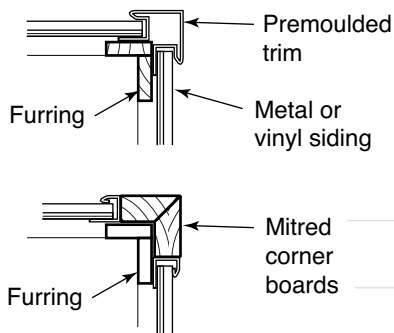

FIGURE 40
- Use only premoulded corner-piece accessories on every outside corner (see Figure 40 for typical corner details suggested by manufacturers).